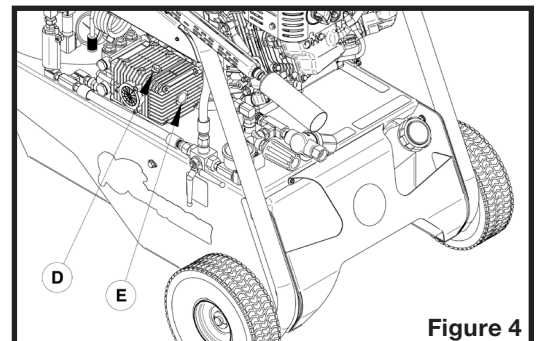

Figure 4
5. Unscrew the oil filler cap/dipstick (D on figure 4).
6. Fill with NON DETERGENT SAE 30 oil to halfway on the sight glass (E on figure 4). Pump crankcase capacity is 14 ounces (0.4 l).